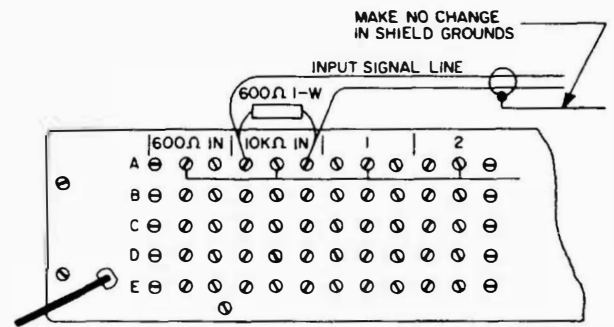

Figure 2. Signal Line Connections for High Level Signals. Note Terminating Resistor
There are two relatively simple solutions to the problem: (1) install signal line level adjustment pads ahead of the AD-2 Distribution Amplifier and set the level of the input signal not to exceed approximately -15 dbm., or (2) connect the signal lines to the HIGH LEVEL 10K OHM input terminals of the AD-2 Distribution Amplifier, as shown in figure 2.
All activities using Cooke Engineering Company Model AD-2 Distribution Amplifiers are requested to monitor the input levels of signals applied to AD-2 and take corrective action as outlined above to assure that the input circuits are not overloaded. If the signal line connections are changed to agree with figure 2, make a notation on the Electronic Equipment History Card, NAVSHIPS 536, which reads "TERMINATING RESISTOR ADDED AND SIGNAL LINES CONNECTED TO HIGH LEVEL 10K OHM INPUT IN ACCORDANCE WITH EIB ARTICLE _____ OF _____ DATE _____" (17S)